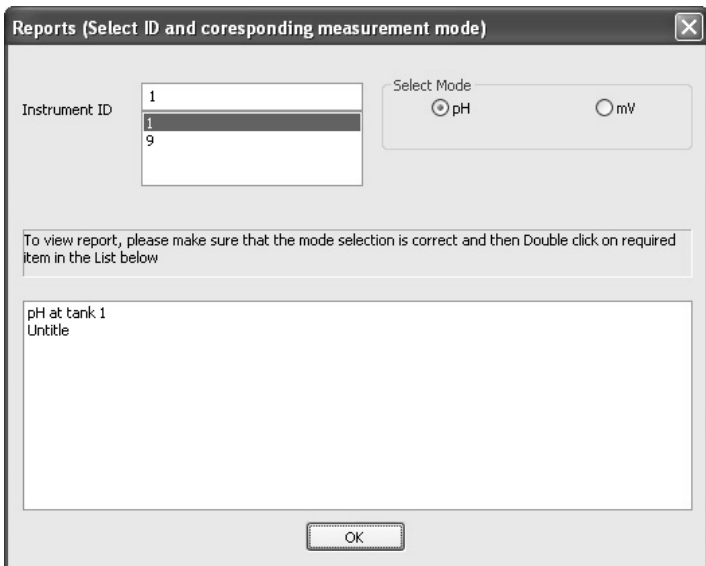

Figure 16 : Select Report
1. Select **Report > View Report** in the main menu. A dialog window will appear (Figure 16)